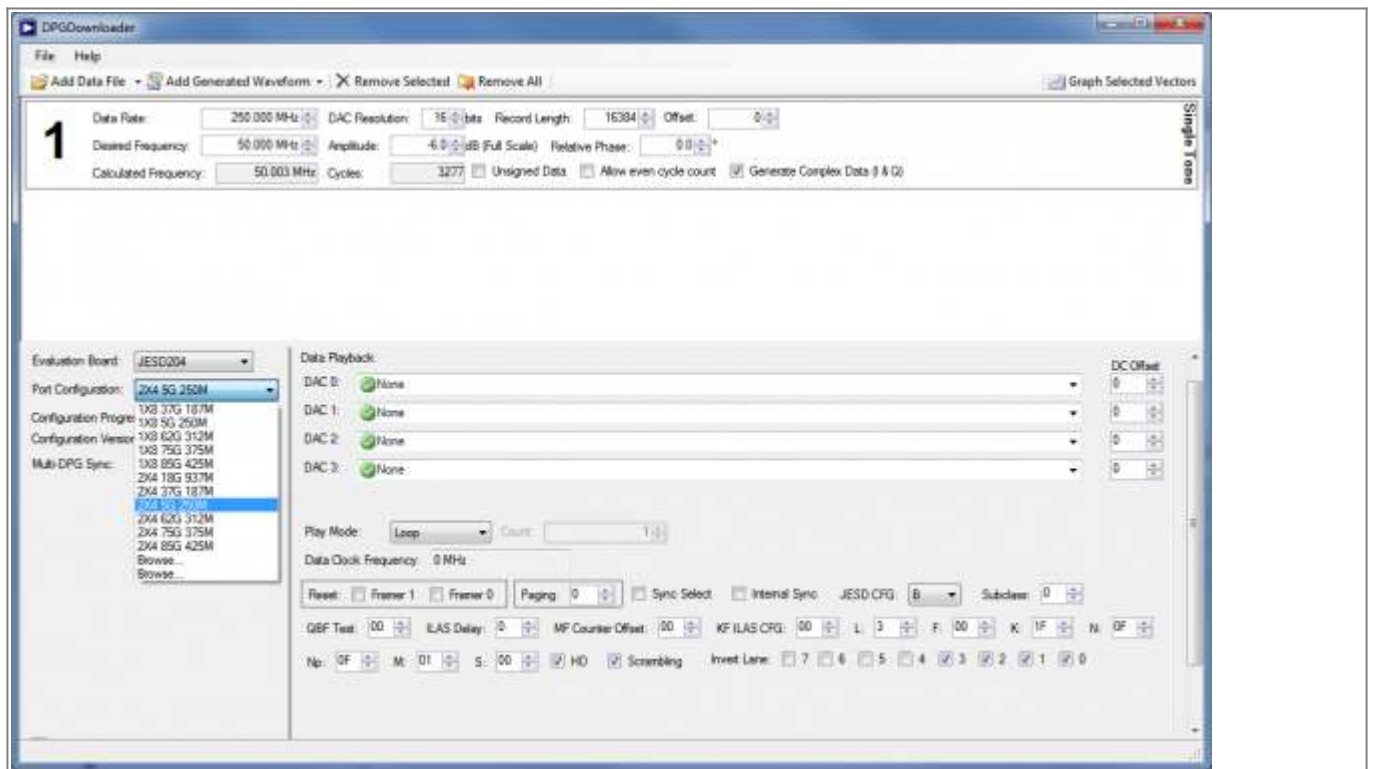

Figure 3. DPG Downloader Panel
1. To begin, turn on the external +5V supply 2. Open DPG Downloader if you have not done so. (Start > All Programs > Analog Devices > DPG > DPGDownloader). Ensure that the program detects the AD9144, as indicated in the “Evaluation Board” drop-down list as “JESD204”, and select it. The “Data Clock Frequency” window will show (0 or 19 MHz) because the SPI software had not been started. The DPG Downloader panel should look like Figure 3.